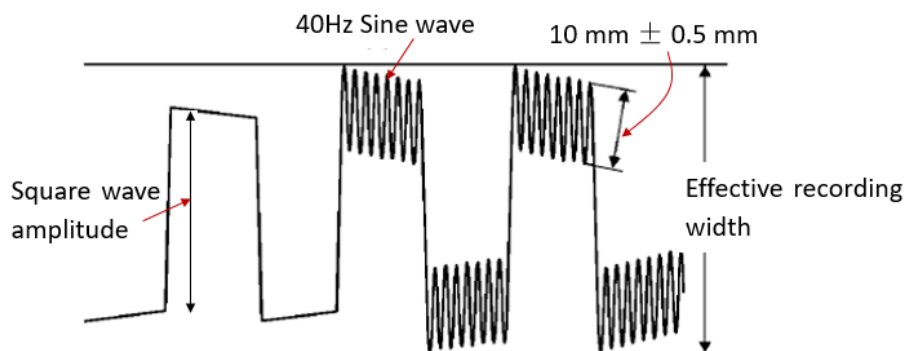

Figure 9, A 40 Hz, 10 mm sine signal is superimposed on a square wave signal with a frequency of 2 Hz and a variable amplitude
- 4) A square wave signal with a frequency of 2 Hz and a variable amplitude is superimposed on the sinusoidal signal, and its amplitude is changed so that the sinusoidal signal drifts within the entire effective recording width. Such a mixed signal is input to the DUT ECG, when the sinusoidal signal drifts, the amplitude value of the sinusoidal signal is measured at different positions of the drift. As shown in Figure 9, the deviation between the measured values at different positions should not exceed  $\pm 5\%$  ( $10\text{ mm} \pm 0.5\text{ mm}$ ).